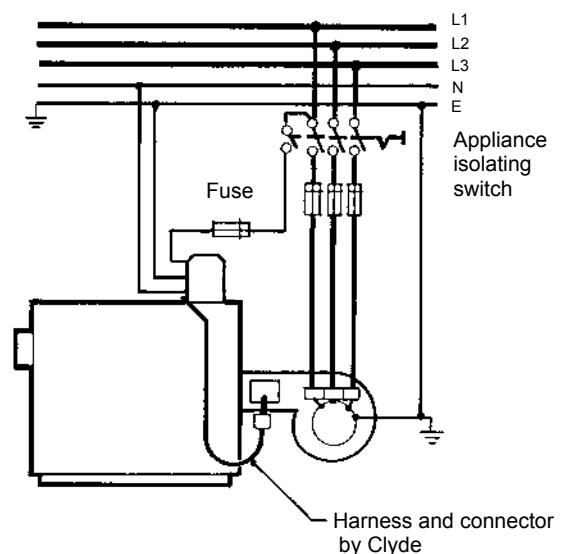

Fig 5 - Electricity supply
## Electrical supply (Refer Fig 5)
**Note:** Fig 5 is only diagrammatic. Double pole switches with the required minimum separation must always be used.